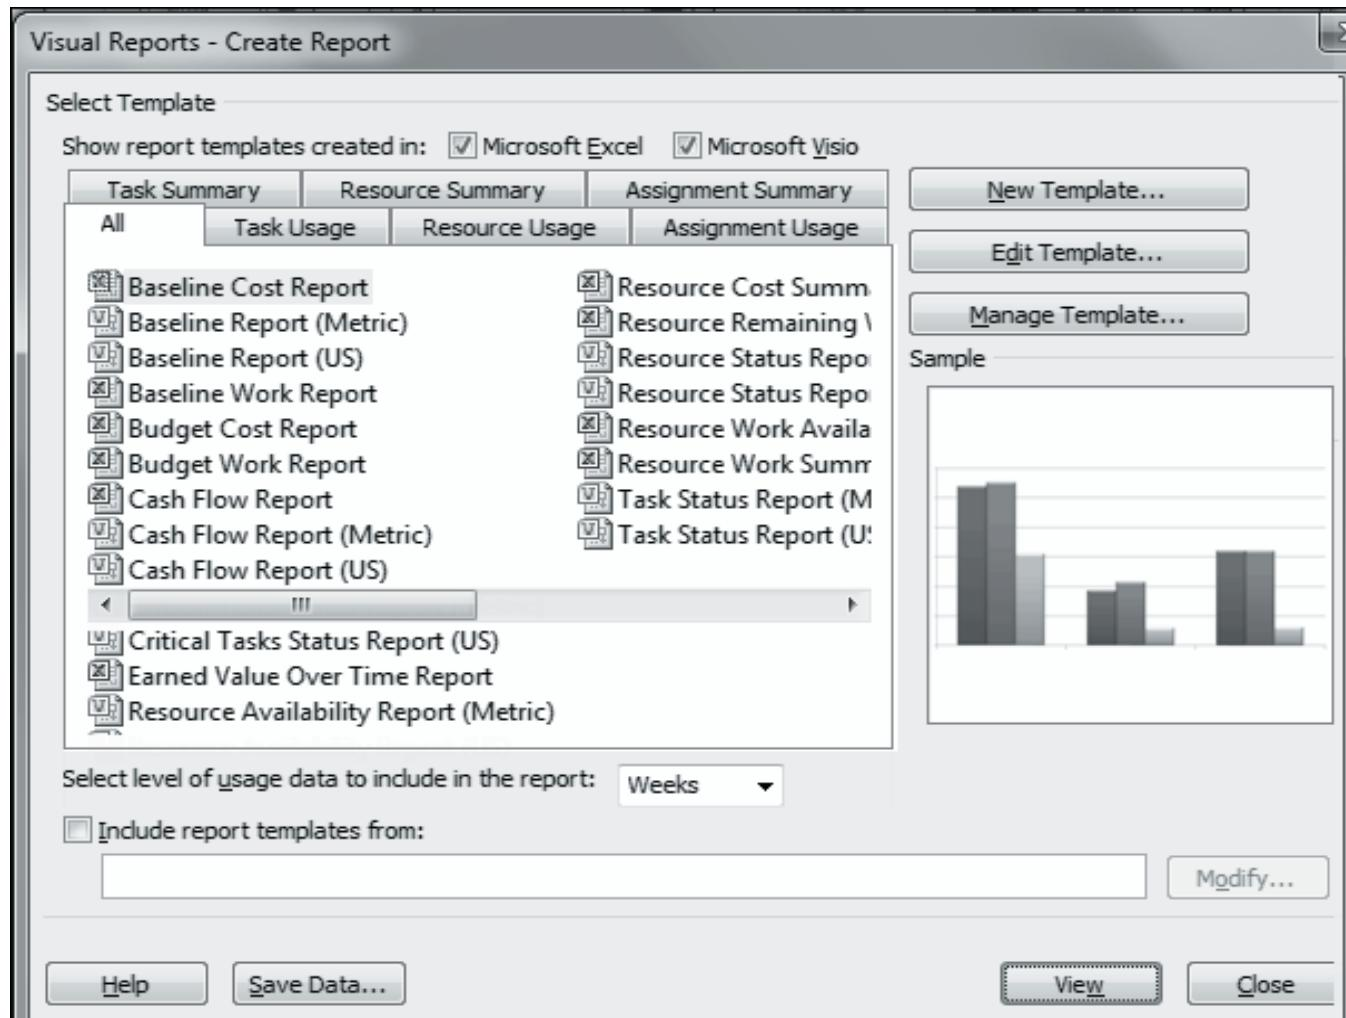

Figure 13.12: Visual Reports Dialog Box
1. Open the project and on the **Project** tab, click **Visual Reports** on the **Reports** group of the **Ribbon** to display **Visual Reports** dialog box as shown in figure 13.12.